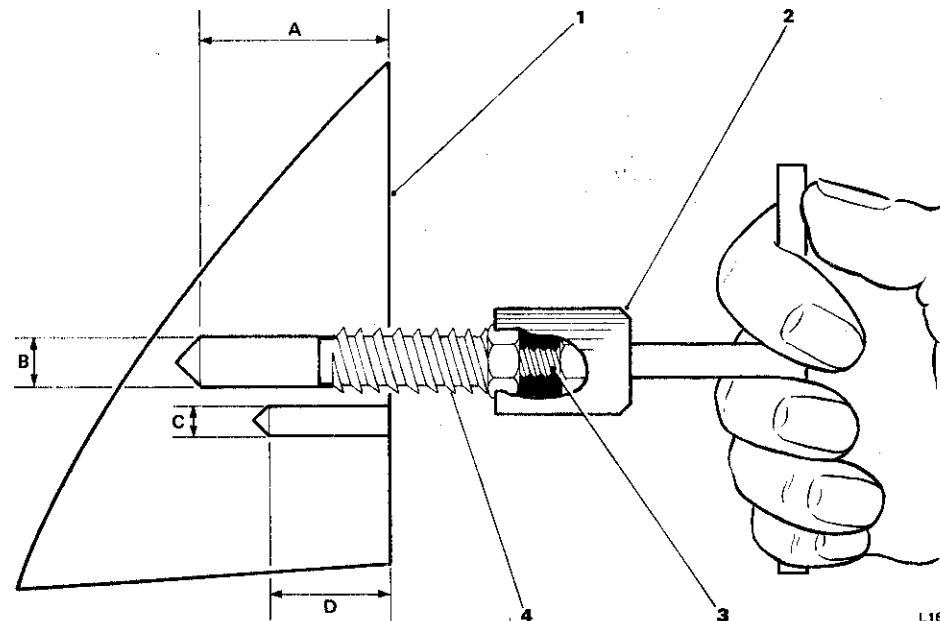

FIG.1 Showing drilling dimensions and method of fitting the brass insert
6. Fit a 0.312 in. (7.93 mm.) diameter drill with a stop, and drill out the upper centre screw hole to a depth of 1.125 in. (28.57 mm.) as shown in Figure 1.
8. Take one of the brass inserts (CBD 2904) and ensure that the 2 B.A. setscrew and lock-nut, fitted to the end opposite the lead-in (see Fig. 1), is well engaged with the threads in the insert.
10. Using a 'Tee' spanner, engaged with the lock-nut rather than the head of the setscrew (see Fig. 1), screw the insert squarely into the 0.312 in. (7.93 mm.) diameter hole drilled out in the head rail until it is flush with the rear face of the head rail.